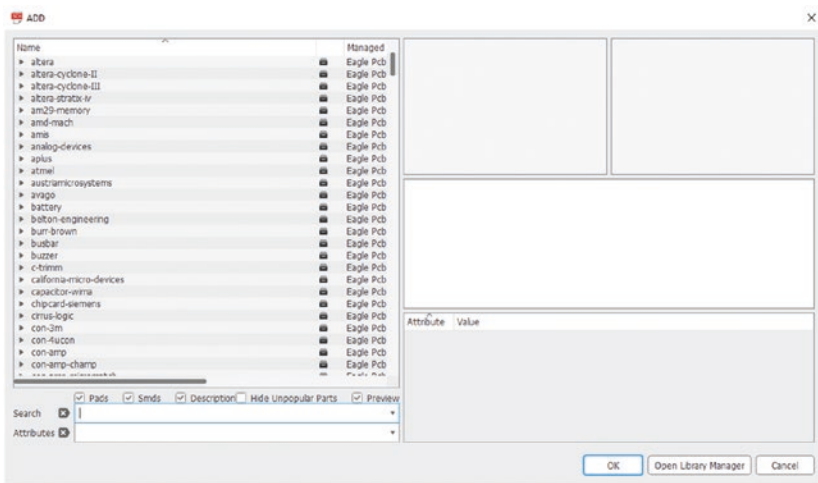

Figure 5-34. ADD window
- 21. Click the ADD button again. See Figure 5-34.